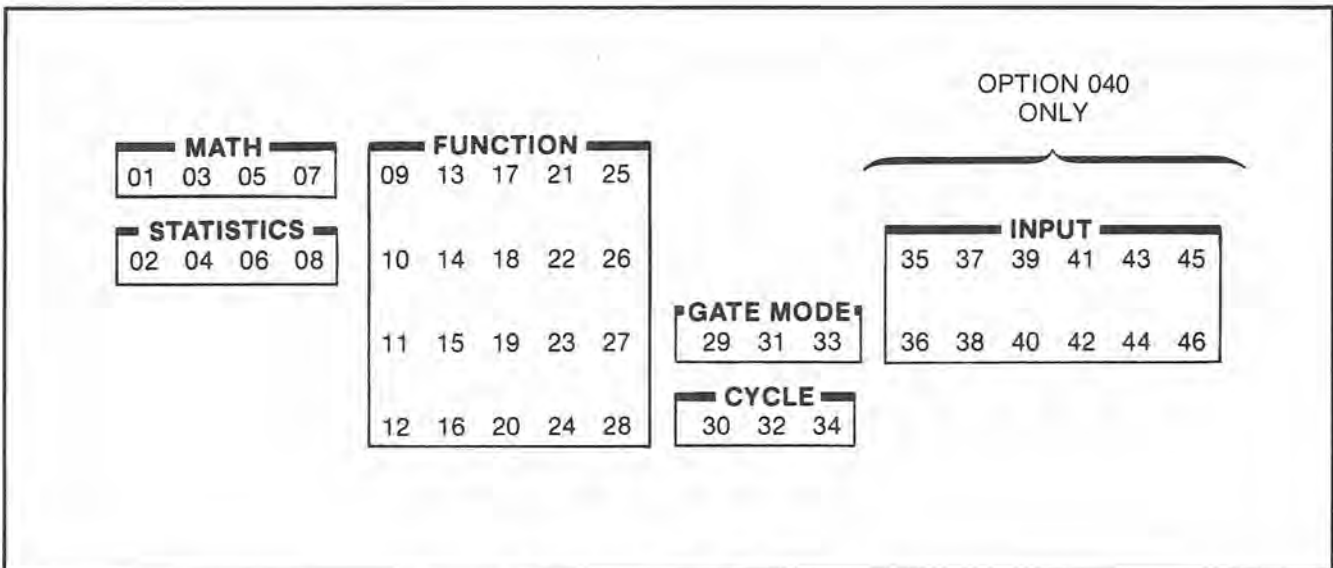

Figure 4-3. Keyboard Check Key Assignments
1. The "+0" EXPONENT will light and two digits on the display will match digits in Figure 4-3.